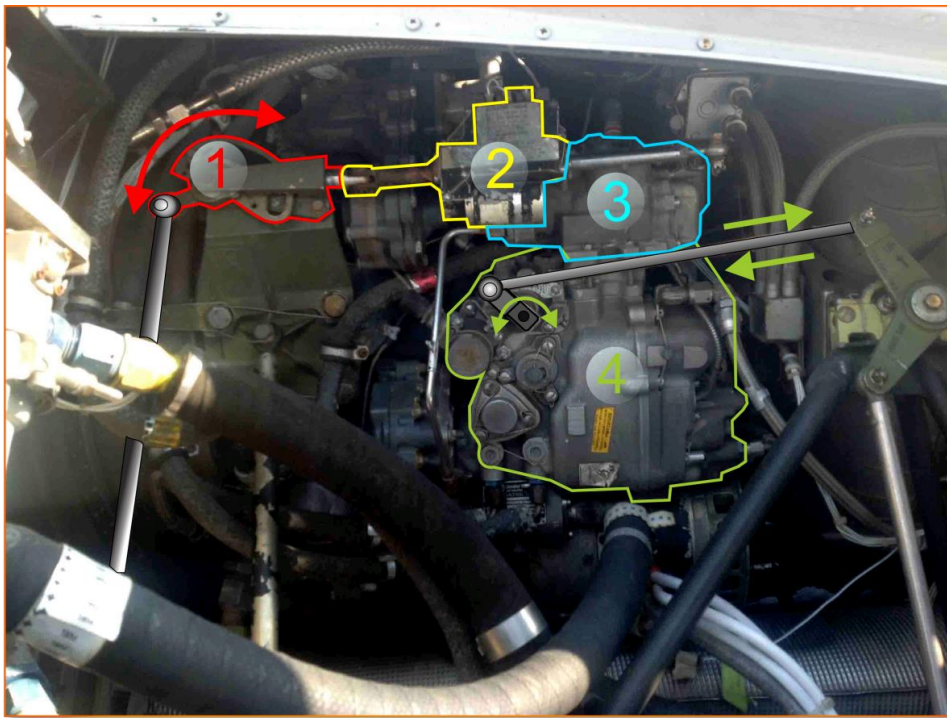

Figure 2.8. Engine-mounted components
- (1) The *METERING SECTION* (#4 in Figure 2.8) is driven at a speed proportional to N1 speed. It pumps fuel to the engine through
(2) The *COMPUTER SECTION* (also #4 in Figure 2.8) determines the rate of main fuel delivery by biasing main metering valve opening for N1 speed, inlet air temperature and pressure, and throttle position. It also controls the operation of the compressor air bleed and operation of the variable inlet guide vanes.
- (3) The *OVERSPEED GOVERNOR* (#3 in Figure 2.8) is driven at a speed proportional to N2 speed. It biases the main metering valve opening to maintain a constant selected N2 rpm.
A droop compensator (#1 in Figure 2.8) maintains engine rpm (N2) as power demand is increased by the pilot. The compensator is a direct mechanical linkage between the collective stick and the speed selector lever on the N2 governor. No crew controls are provided or required. The compensator will hold N2 rpm to 6600 rpm when properly rigged. Droop is defined as the speed change in engine rpm (N2) as power is increased from a no-load condition. It is an inherent characteristic designed into the governor system. Without this characteristic instability would develop as engine output is increased resulting in N1 speed overshooting or hunting the value necessary to satisfy the new power condition.